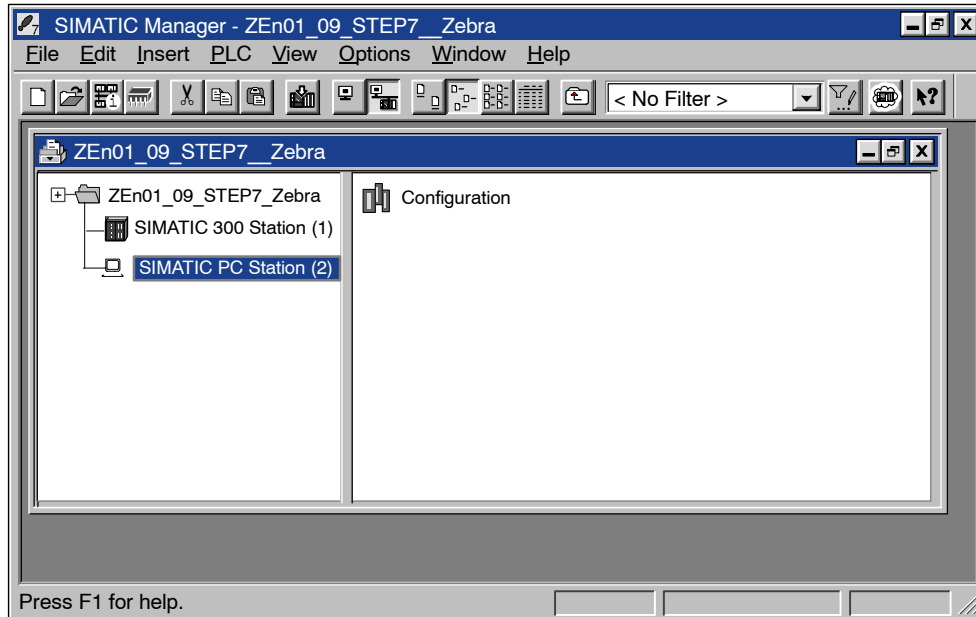

Figure 3-6 Configuring the PC Station in the Sample Project
2. Double-click on the Hardware object to open the configuration tool of the STEP 7 software. See Figure 3-6.